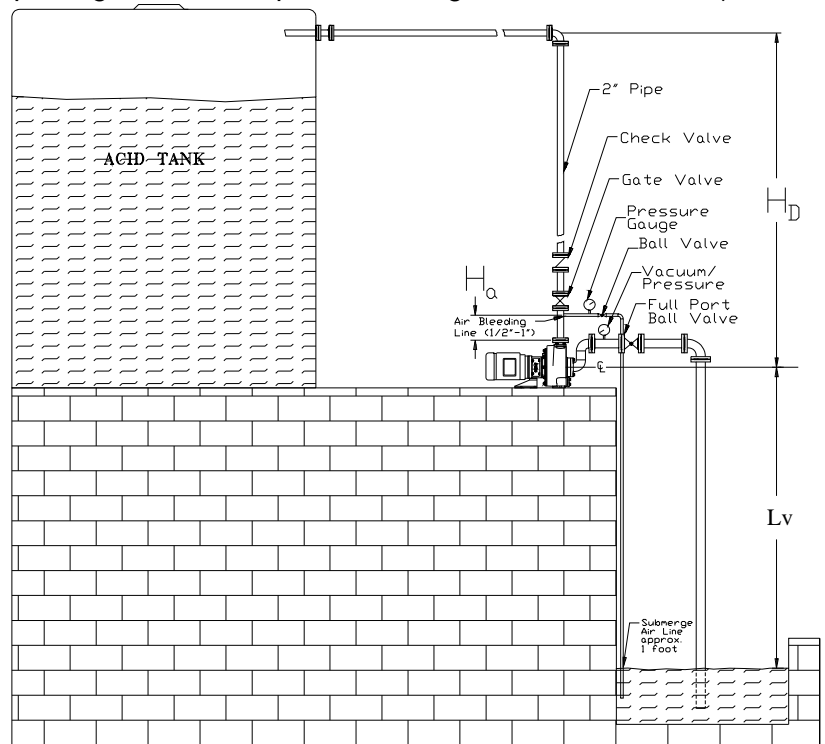

Figure 6-1 Sump piping
Figure 6-1 represents a recommended piping setup for sump applications where the liquid source is located below the pump. The KP is capable of priming trouble-free and repeatedly when properly installed. Due to the wide variety of suction piping conditions in the field, some arrangements may differ and additional precautions should be emphasized. Suction lift, horizontal line length, pipe size and the existence of filter chambers are most influential to the suction performance. These conditions will alter the static suction head and volume of air, which the self-priming pump has to purge out. Variations in specific gravity (SG) and vapor pressures of the liquid also change the suction performance.
- 2) If static discharge pressure (pressure indicated when pump is off) is greater than 10 psig, then an alternate valved air bleeding line (1/2" to 1") is required allowing pump to exhaust freely back to the source tank (Figure 6-1). Air bleeding line location on discharge (H_a) is approximately 1 ft above the pump while end of line is submerged approximately 1 ft in source liquid. Ball valve on bleed line should remain open when priming and closed when pumping, unless discharge loss is satisfactory. Line aids in re-circulating under low flow conditions.
- 3) **Startup when discharge pressure is greater than 10 psi.** Centrifugal self-priming pumps have a difficulty priming against any discharge pressure. An alternate air bleeding line should be used on pump startup (shown in Figure 6-1 & 6-2). Open suction and close discharge valve for use of air bleeding line, then turn on the pump. Priming will begin immediately. When a steady discharge pressure is read, open discharge valve.